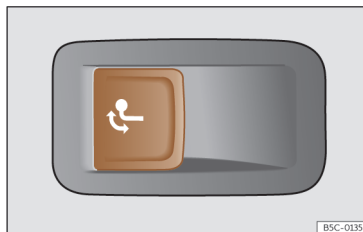

Fig. 187 Left side of the luggage compartment: button to unlock the tow hitch.
- Pull the >>> **Fig. 187** button briefly. The tow hook unlocks electrically and automatically turns outwards. The button's control lamp flashes.
- Pull the >>> **Fig. 187** button briefly. The tow hook unlocks electrically.
- Never press the button >>> **Fig. 187** when there is a trailer hooked to the vehicle or when a carrier system or other accessories are mounted on the tow hook.